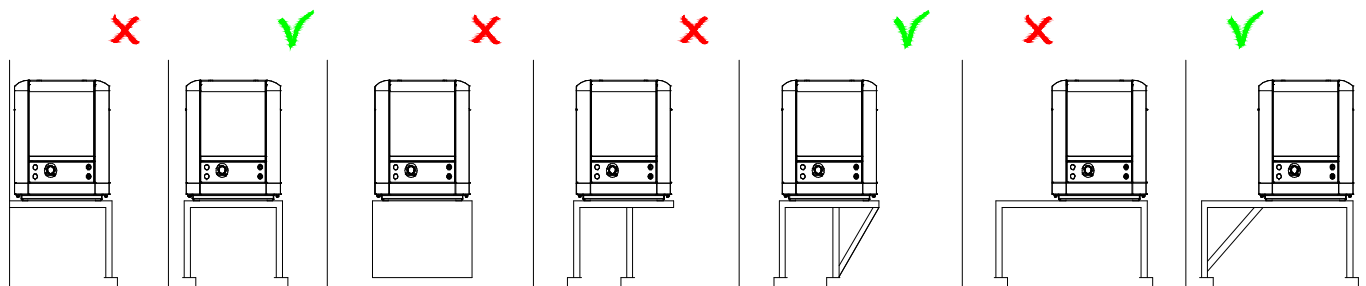

Figure 5: Mounting of the WhisperPower genverter.
- 1 Most importantly, the structure on which the genverter is placed must be stiff. Directly below the base frame, the structure should be supported vertically to the chassis of the vehicle. When this is not possible horizontal structures should be made stiff by additional provisions (Figure 5).
- 5 Never connect the base of the genverter directly to walls or tanks (Figure 5).